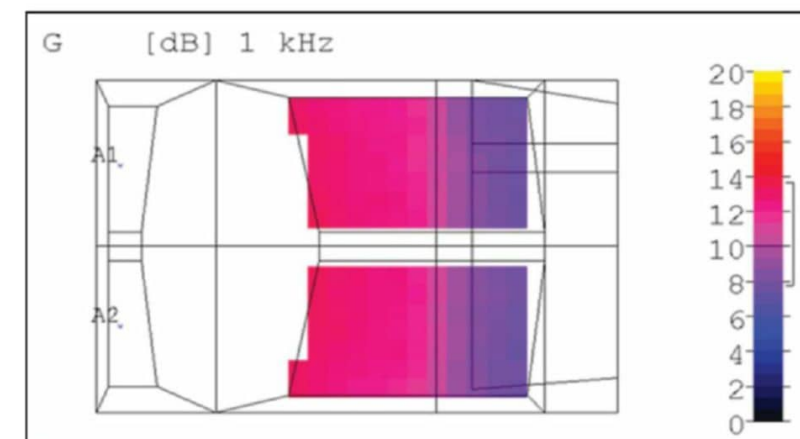

Figure 5: The acoustical strength varies quite a bit in the original condition of the auditorium.
The original measured G, mapped onto the floor plan, is shown in **Figure 5**. The mapped values correspond to the average G from 125 Hz to 4 kHz. The ratio of maximum-to-minimum G was 5.6 dB. After a choir shell was installed, the G almost doubled, and its minimum value (back of the room) was only 2.7 dB lower than the maximum value (front of room), resulting in much improved choir projection into the seating area (see **Figure 6**). Speech intelligibility is specified in various ways: STI, STI-N, STI-PA, and %Alcons. Specialized instruments are used to measure intelligibility. However, the main determinants of speech intelligibility are RT and background noise. D(50) is used by some consultants as a guide to the speech intelligibility of a venue.